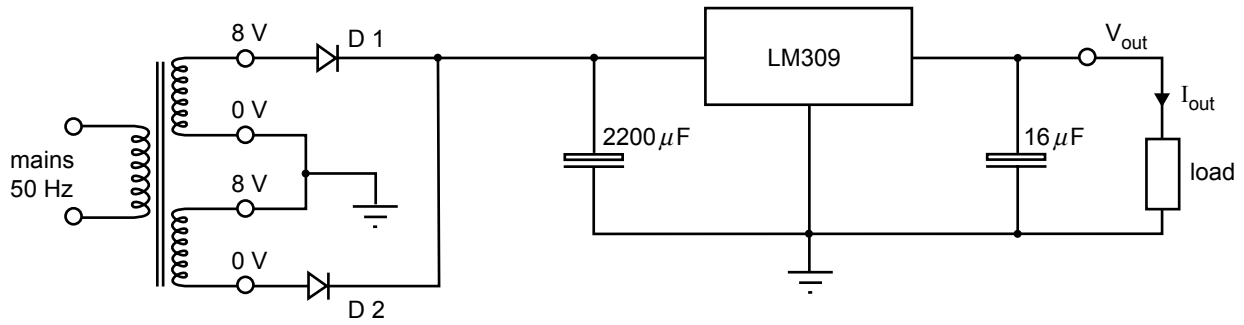

Figure 3
A linear power supply using the LM309 regulator is shown in Figure 3.
- c. Refer to Figure 3.
Calculate the peak level of voltage across the $2200 \mu\text{F}$ capacitor in Figure 3.